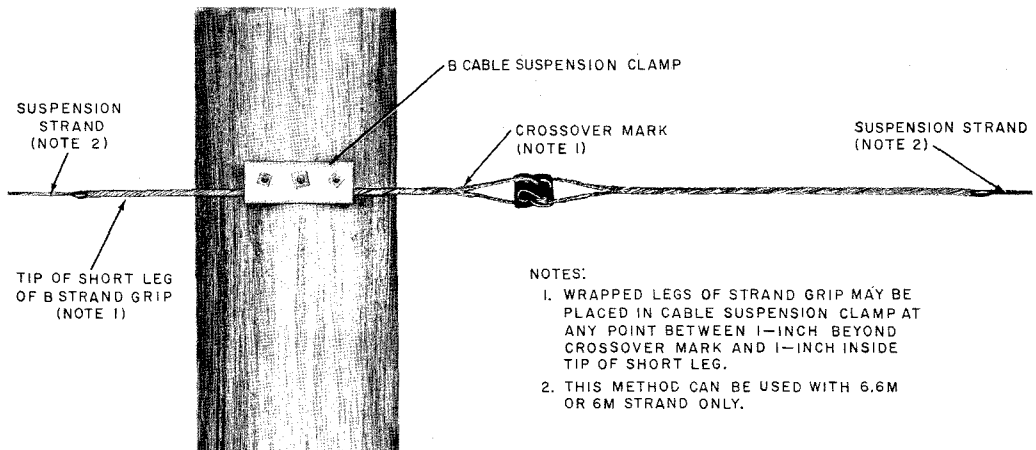

Fig. 5—Strand Connector with B Strand Grips Adjacent to Pole
2.05 Suspension strand can be joined adjacent to a pole with a strand connector and B strand grips as shown in Fig. 5. This method can be used with **only** 6M or 6.6M suspension strand. The wrapped legs of the B strand grips can be placed in the cable suspension clamp at any point beyond 1 inch from the crossover mark to within 1 inch of the end of the short leg of the B strand grip.